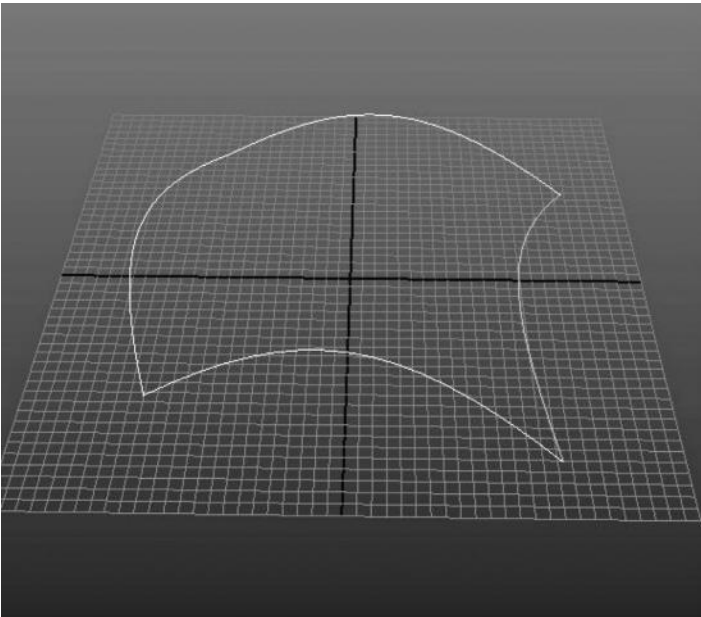
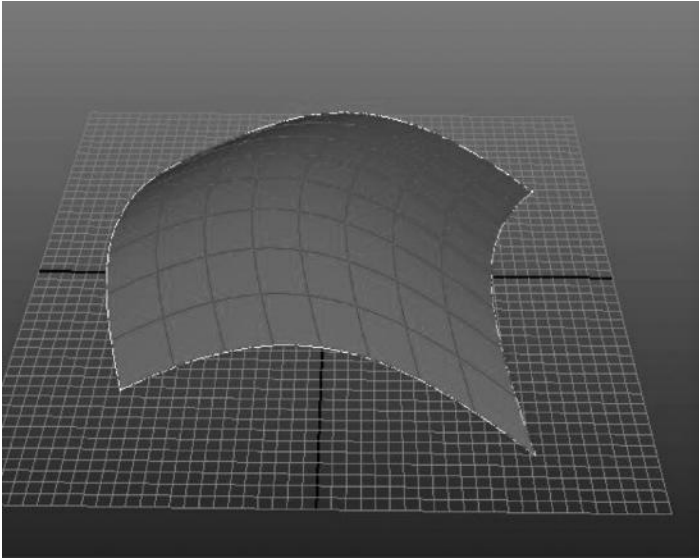

FIGURE 3.44 Four separate curves, intersecting at the end points.
FIGURE 3.45 The resulting boundary surface, made from the intersecting curves.
**Boundary** surfaces are surfaces that are created by choosing three or four curves that are connected by their start and end knots. As you can see in Figure 3.45, this allows a surface to be generated by choosing the outline curves. Like the birail, the outline curves must be connected by having the start or end knots in the exact same location, something that can be accomplished by using the **curve snap**. Figure 3.44 shows four curves with the corners that are connected together, like a postage stamp. Figure 3.45 shows a boundary surface created from these four curves.